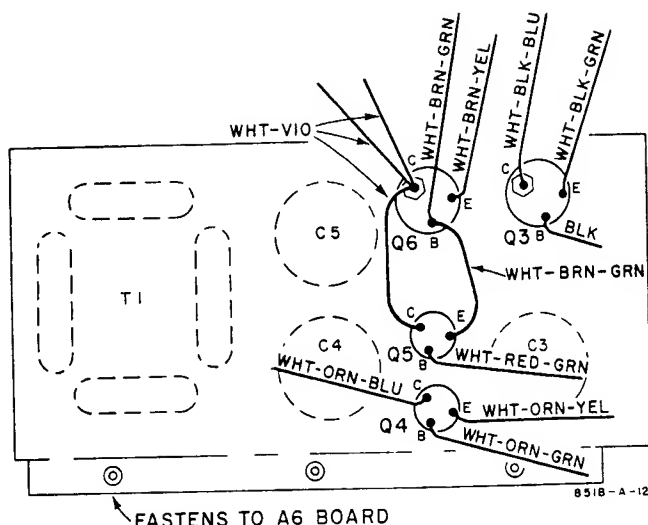

Figure 5-15. Under Side of Transistor/Transformer Deck, Identification of Q3-Q6 Terminals
h. The deck on which the transistors are mounted is now free of its fastenings and can be shifted so the under side can be exposed. One method is to pull it gently out from under the A6 Board, and then turn the deck over. Transistors and their terminals are identified in Figure 5-15.